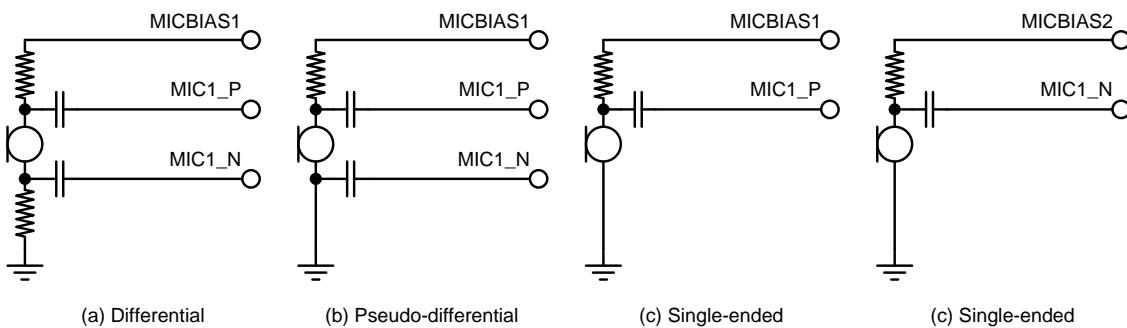

Figure 7. Typical microphone application for MIC1 (MIC2 is similar)
- Single ended or Pseudo-differential mode by connecting MIC1\\_N or MIC2\\_N to GND (see Figure 7). The microphone source is specified using MIC\\_1\\_AMP\\_IN\\_SEL and MIC\\_2\\_AMP\\_IN\\_SEL
- Single ended or Pseudo-differential mode by connecting MIC1\\_P or MIC2\\_P to GND (see Figure 7). The microphone source is specified using MIC\\_1\\_AMP\\_IN\\_SEL and MIC\\_2\\_AMP\\_IN\\_SEL
Single channel and dual channel digital microphone modules are supported. The dual channel modules change the output data on both the rising and the falling edges of the clock, as illustrated in Figure 7. In this case DMIC\_SAMPLEPHASE must be set to zero in order to enable the sample detection at the edges of the clock. Each DMIC input is enabled via DMIC\_L\_EN / DMIC\_R\_EN and is associated with a clock edge via DMIC\_DATA\_SEL control.